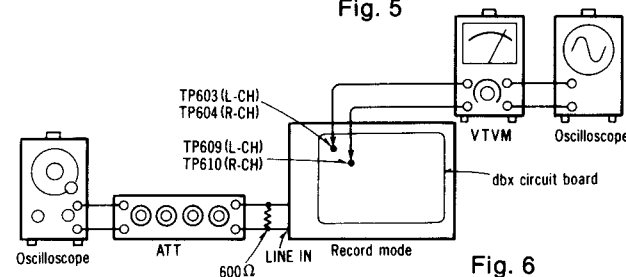

Fig. 6
1. Make the connections as shown in fig. 6, and apply 1kHz -27dB signal from LINE IN, and set the noise reduction selector to dbx tape position.